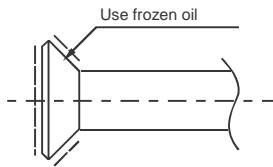

Fig.7-2
- Daub the surfaces of the flare pipe and the joint nuts with frozen oil, and wrench it for 3-4 rounds with hands before fasten the flare nuts. (Refer Fig.7-2)